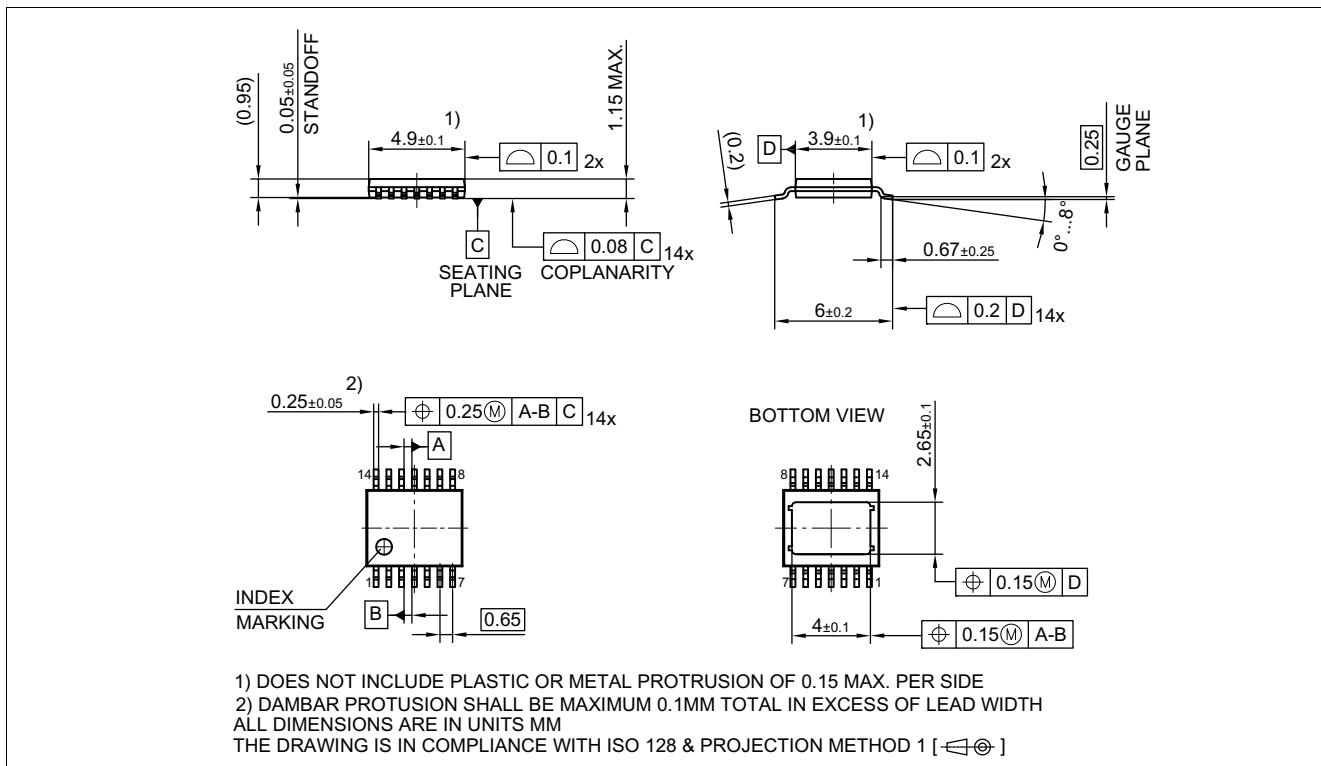
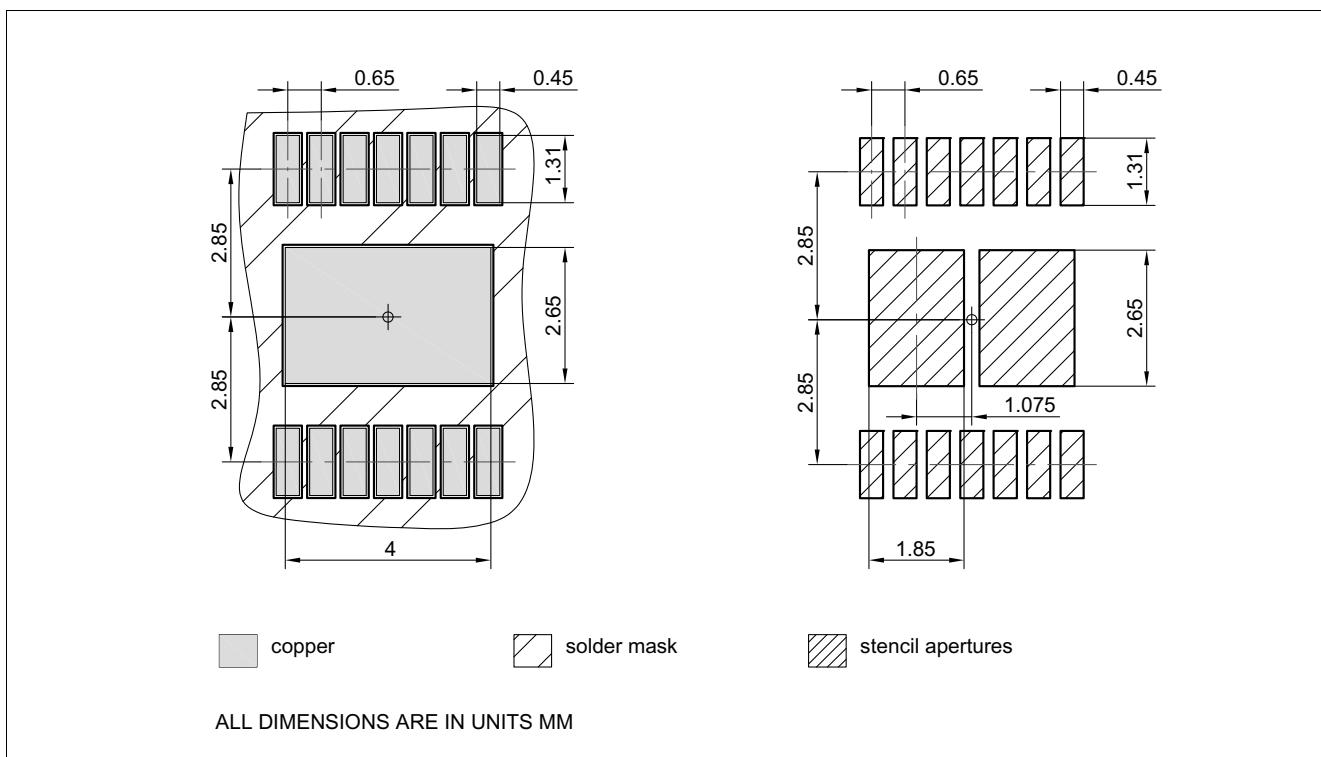

Figure 38 PG-TSDSO-14 (Thin (Slim) Dual Small Outline 14 pins) Package Outline
Figure 39 PG-TSDSO-14 (Thin (Slim) Dual Small Outline 14 pins) Package pads and stencil
1.02 , 2019-02-05	<p>Figure 9, Figure 10 updated</p> <p>Page 1: updated (figure product)</p> <p>Table 22 updated (punctuation)</p> <p>Chapter 9.3, Chapter 9.3.1 updated (typo)</p> <p>Page 1: updated (Package PG-TSDSO-14-22 \rightarrow Package PG-TSDSO-14)</p> <p>Figure 38 updated (PG-TSDSO-14-22 (Thin (Slim) Dual Small Outline 14 pins) Package Outline \rightarrow PG-TSDSO-14 (Thin (Slim) Dual Small Outline 14 pins) Package Outline)</p> <p>Figure 39 updated (PG-TSDSO-14-22 (Thin (Slim) Dual Small Outline 14 pins) Package pads and stencil \rightarrow PG-TSDSO-14 (Thin (Slim) Dual Small Outline 14 pins) Package pads and stencil)</p> <p>Table 1 updated (Parameter: Minimum Overvoltage protection ($T_J = 25\text{ }^\circ\text{C}$) \rightarrow Minimum Overvoltage protection ($T_J \geq 25\text{ }^\circ\text{C}$))</p> <p>Table 1 updated (corrected typo in table Product Summary: $I_{VS(OFF)}$: 1 \rightarrow 0.9 μA)</p> <p>Table 1 updated (Symbol: $I_{VS(OFF)} \rightarrow I_{VS(OFF)_85}$)</p> <p>P_6.5.20.1 updated (Symbol: $I_{VS(OFF)} \rightarrow I_{VS(OFF)_85}$)</p> <p>P_6.5.20.2 updated (Symbol: $I_{VS(OFF)} \rightarrow I_{VS(OFF)_150}$)</p> <p>P_9.7.10.27, P_9.7.10.29 updated (Note or Test Condition: formatted physical symbols as subscript)</p>